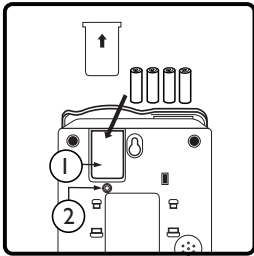

Figure 1
1. Slide open the battery compartment cover on the bottom of the telephone. This opening is pointed out with the #2 in Figure 1. To open the battery compartment, use a pen or similar fine point instrument to press into small opening below the compartment door.